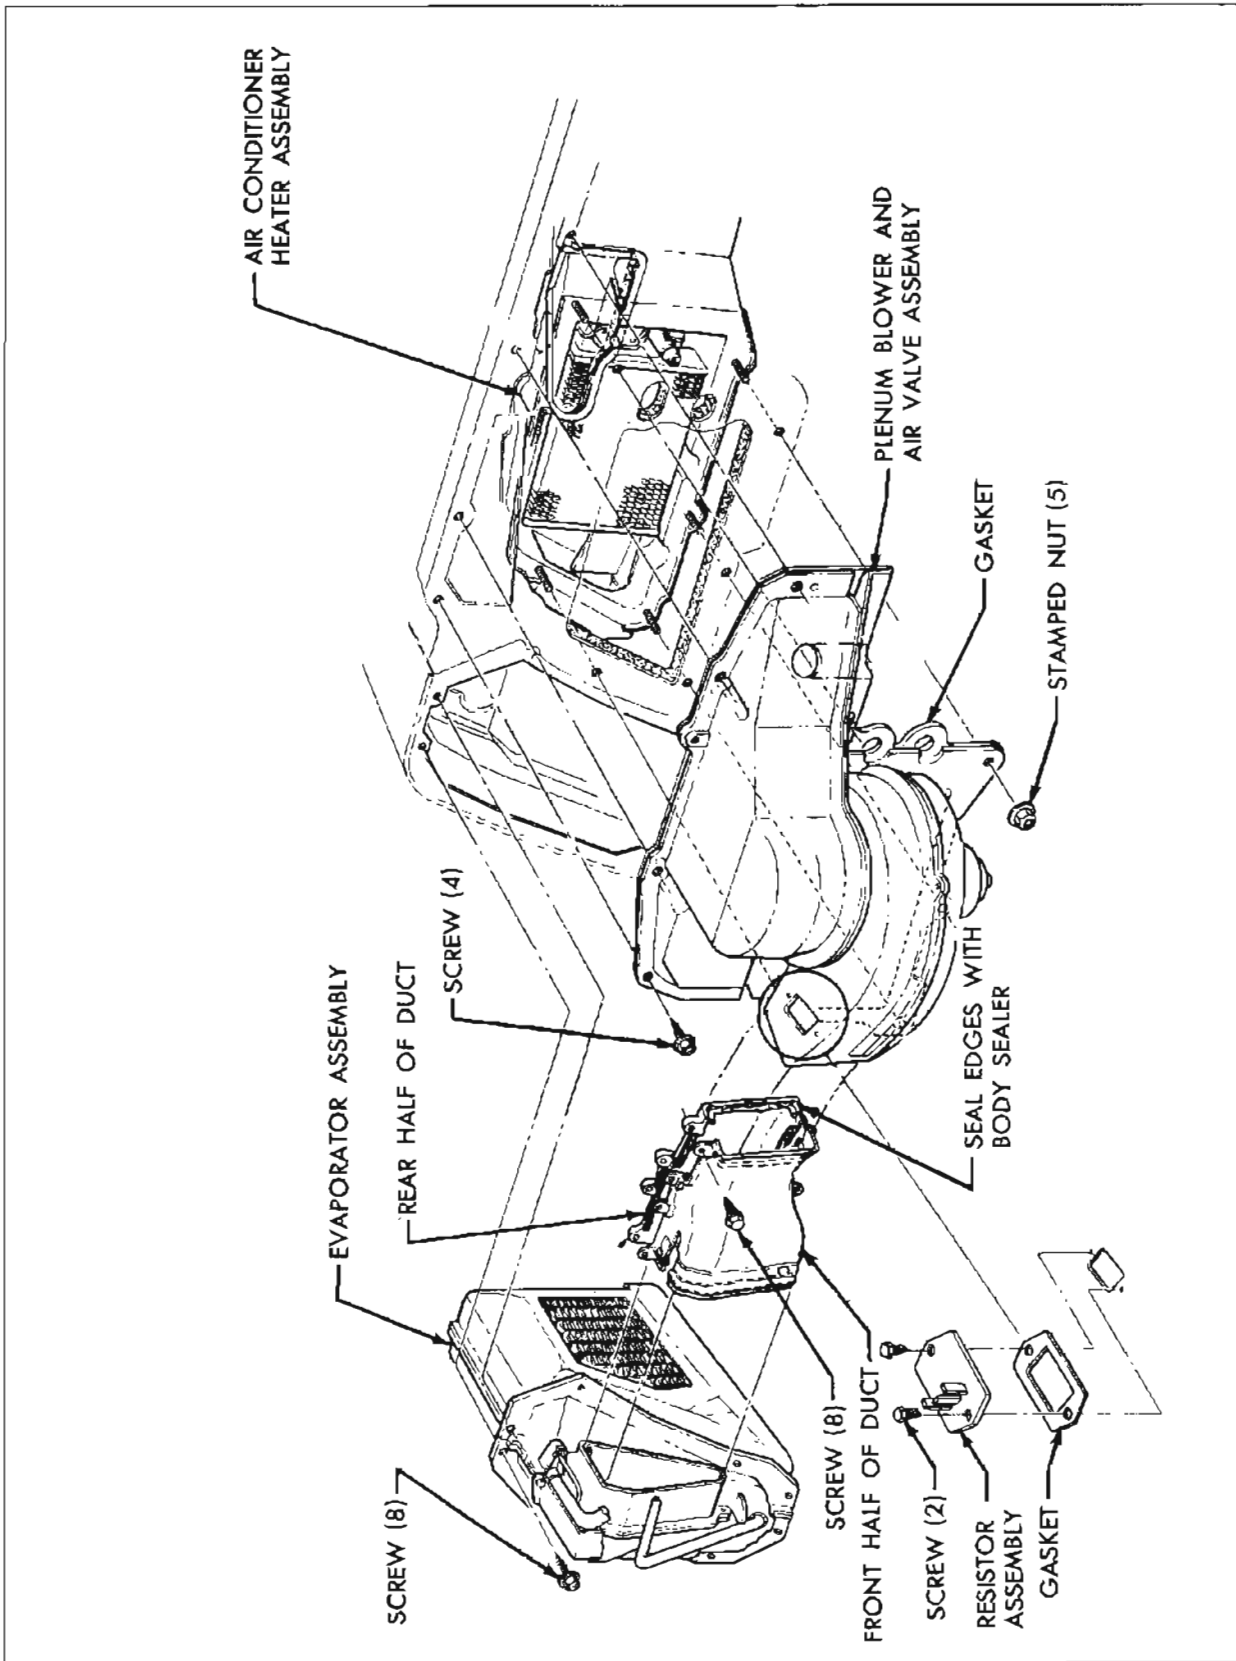

Figure 11-110—Evaporator Assembly, and Plenum Blower and Air Valve Assembly Installation
2. Remove eight screws securing front and rear halves of duct between evaporator, and plenum blower and air door assemblies (see Figure 11-110). Remove front half of duct by pushing it down under the evaporator pipes. Remove rear half in a similar manner.
5. Remove five stamped screws from studs of air conditioner heater assembly (see Figure 11-110).